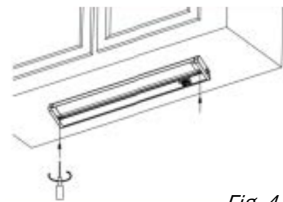

Fig. 4
3. Attach the light fixture to the mounting surface by inserting and fastening screws (Fig. 4).